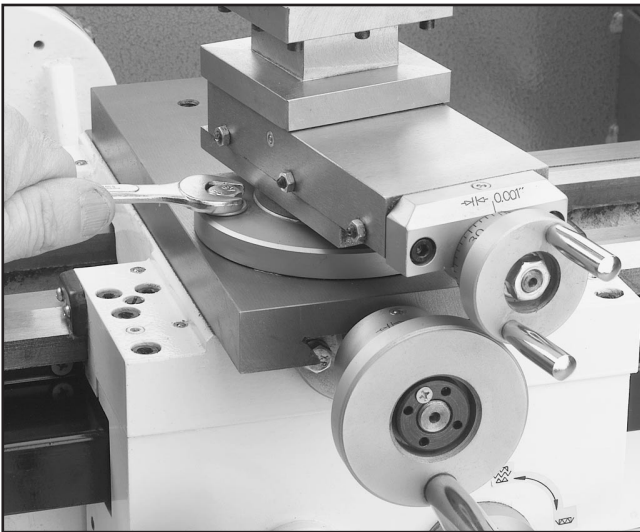

Figure 13. Removing compound slide bolts.
1. Use a 12mm wrench to remove the two bolts that secure the compound slide to the cross side. See **Figure 13**.